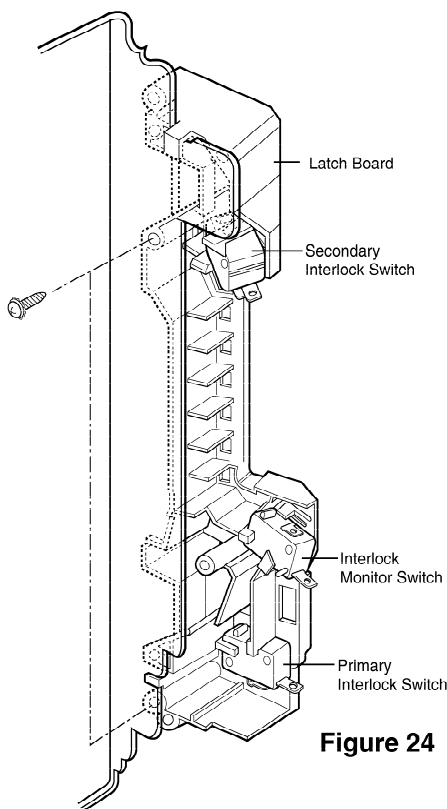

Figure 24
- (1) Set the microwave oven on its side so that you can see the latch board and the switches, as shown in Figure 24.
- DISCONNECT THE POWER SUPPLY CORD FROM THE WALL OUTLET WHENEVER REMOVING THE CABINET FROM THE UNIT. PROCEED WITH THE TESTS ONLY AFTER DISCHARGING THE HIGH VOLTAGE CAPACITOR AND REMOVING THE WIRE LEADS FROM THE PRIMARY WINDING OF THE HIGH VOLTAGE TRANSFORMER. (SEE FIGURE 24)